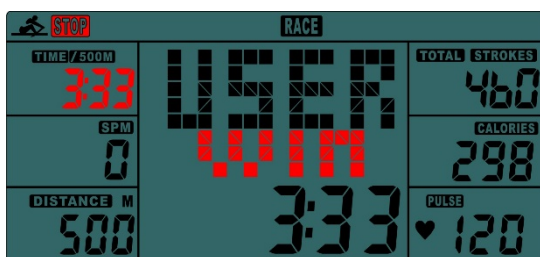

Fig.7
- B. Press START KEY to START and STOP will disappear. The USER & PC will display in the matrix.(Fig.6).the monitor will STOP when one have reached the distance of race which has been set before, then the matrix displays “PC WIN or USER WIN”(Fig.7) and may display the state of the energy after 6 seconds.